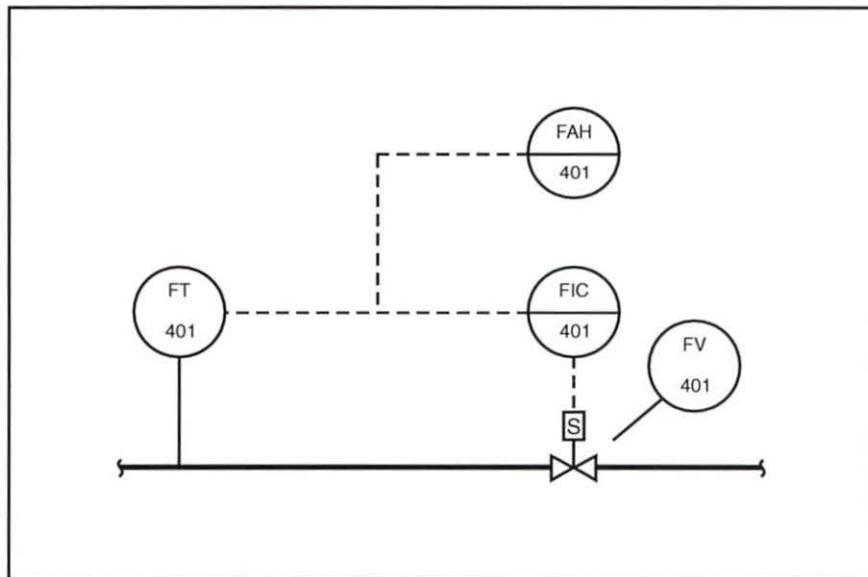

Figure 72. Flow Loop Tags
For example, the four devices in figure 72 all have the same loop number (401) because they are all used in the same loop. This particular loop measures and controls flow.